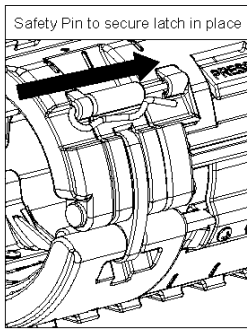
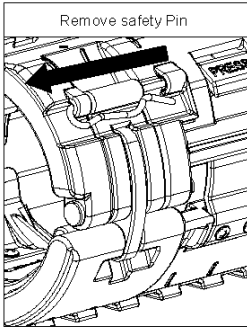

Figure 5.5
Figure 5.6
- 4.1 If the BAABS is installed on a blast hose (#3) or in a latched position (See Figure 5.5), The steps are outlined in section 5.0 using Figures 5.6 - 5.9 to open and uninstall the BAABS.
- 5.1.5 Secure with Safety Pin (#8). (Figure 5.5)
- 5.2.1 Remove Safety Pin(s) (#8) to release Rail Latch Lever Assembly (#6). (Figure 5.6)